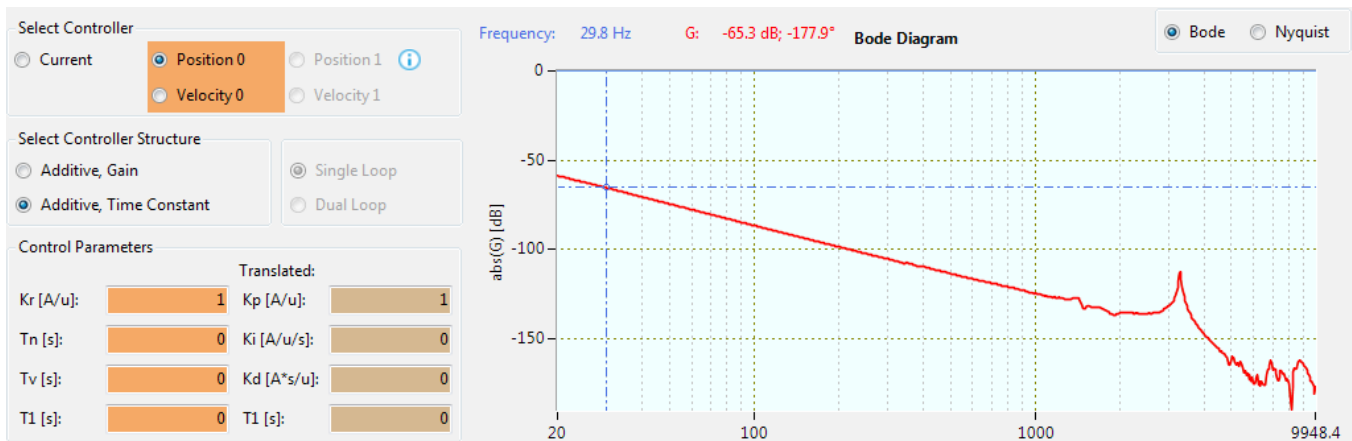

Figure 64: Calculation of the acceleration feed forward. With a measured amplitude of -65.3dB at 29.8Hz, the acceleration feed forward is set to 0.052.
4. At lower frequencies the amplitude in the Bode view of *Gopen* should show a linear section with a drop of 40dB per frequency decade. Measure the amplitude *A* with the cursor at a frequency *f* within the linear section (see also Figure 64). The acceleration feed forward can be calculated with the following equation.